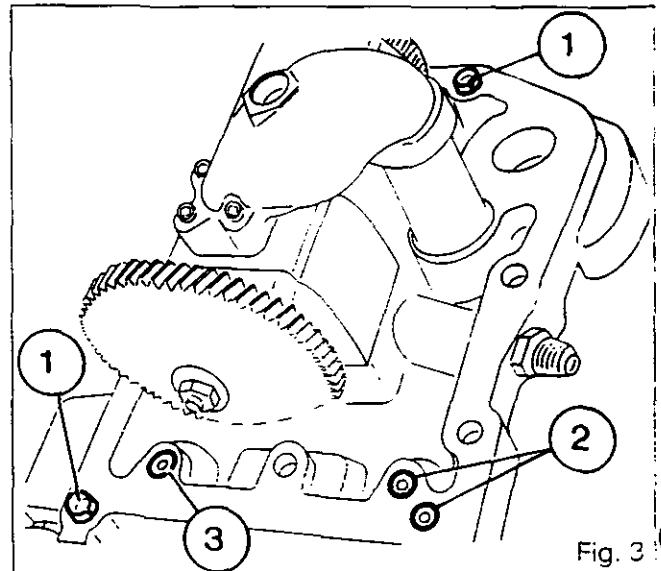

Fig. 3
16. Check the presence of the two dowels (1) on the cover (Fig. 3).
- for the Hare/Tortoise lines (2) (Fig. 3)
- for the p.t.o. clutch line (3) (Fig. 3)